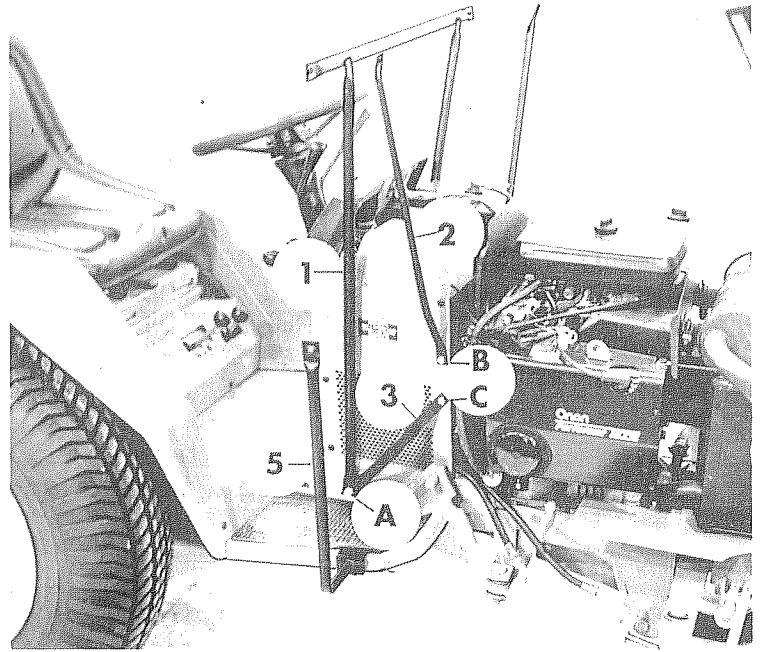

FIGURE 2A
STEP 2; SEE FIGURE 2A & 2B:
- A. Raise the hood. Loosen the bolts on both sides at REFERENCE A and remove the screws at REFERENCE B & C. Place the FRONT PANEL FRAME (1) over the dash and slip the notched ends under the bolts at REFERENCE A.
- B. Slip the notched end of the VINYL SUPPORT (3) under the bolt on the right side at REFERENCE A. Insert a $1/4"$ x $5/8"$ bolt with lockwasher through the upper end of the support and secure it to the side of the dash at REFERENCE C.
- C. Insert a $1/4"$ x $5/8"$ bolt with lockwasher through the lower end of the right FRONT PANEL FRAME BRACE (2) and secure it to the side of the dash at REFERENCE B. Do not tighten yet. Repeat on left side with left FRONT PANEL FRAME BRACE (4).
- D. Repeat on left side with left FOOT (6) (left foot has welded tab). Insert a $1/4"$ x $5/8"$ bolt through the hole in the FOOT POCKET GUARD and then the tab welded to the left foot. Add a nut and tighten keeping the guard tilted slightly downward.
- E. Insert a $5/16"$ x $1\ 1/4"$ bolt into the clamp welded to the right FOOT (5). Place the clamp over the step plate about 1" behind the bend. Tighten the bolt by hand.